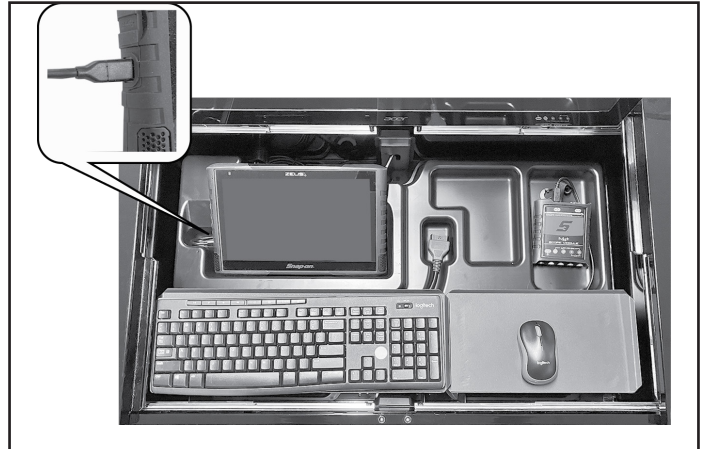

Figure 13
5. Place the diagnostic tool on the stand and connect the USB-C cable from the USB-C hub to the tool as shown (Figure 13).
6. Place the keyboard on the long shelf and the mouse on the short shelf in the upper tray area (Figure 13).